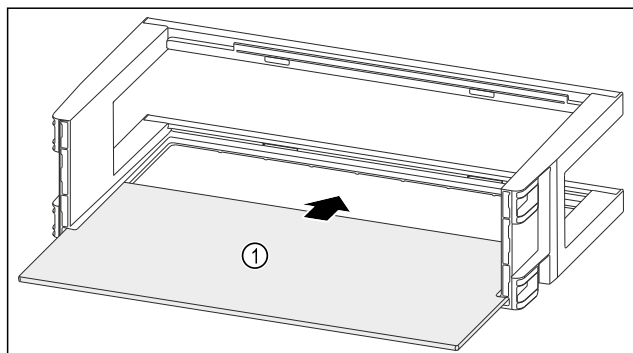

Fig. 144
- Push the shelf *Fig. 144 (1)* into the side recesses.